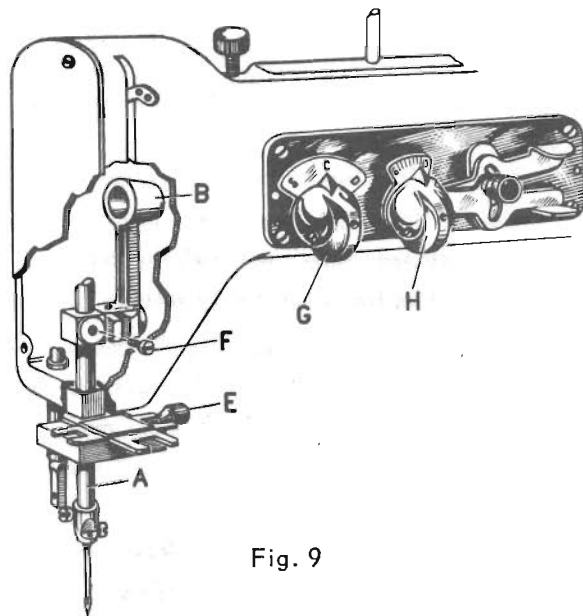

Fig. 9
The timing of these two groups is obtained by using the gauges symbol nos. **10.5.1/1** and **10.5.1/2** (Fig.9).
- shift the indicator of the needle displacement lever **G** on its **C** (center) position and the zig-zag width controlling lever **H** on **O** (zero) (Fig.9),
- if the distance is not correct, bring the needle bar to its lowest position and loosen screw **F** (Fig.9) on the needle bar connecting sleeve by inserting a screw-driver in the cut out provided in the face plate of the sewing machine,